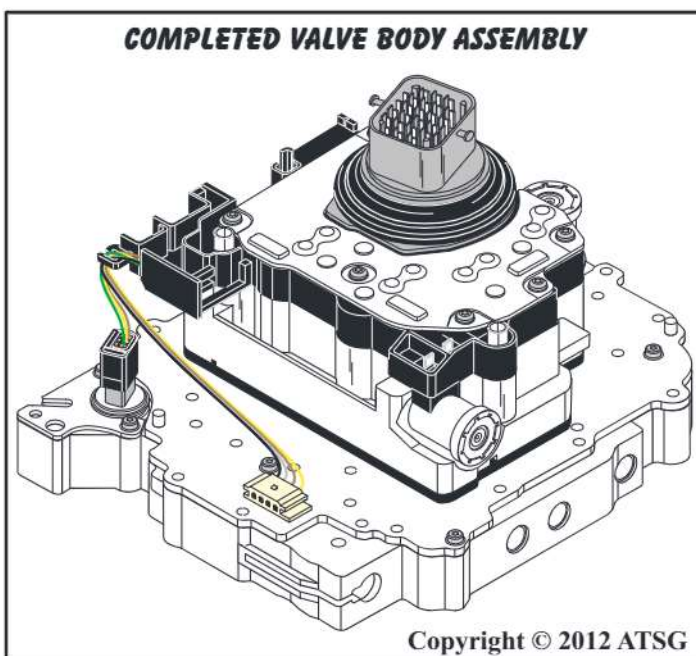

Figure 227
47. Set the completed valve body assembly aside for final assembly, as shown in Figure 227.